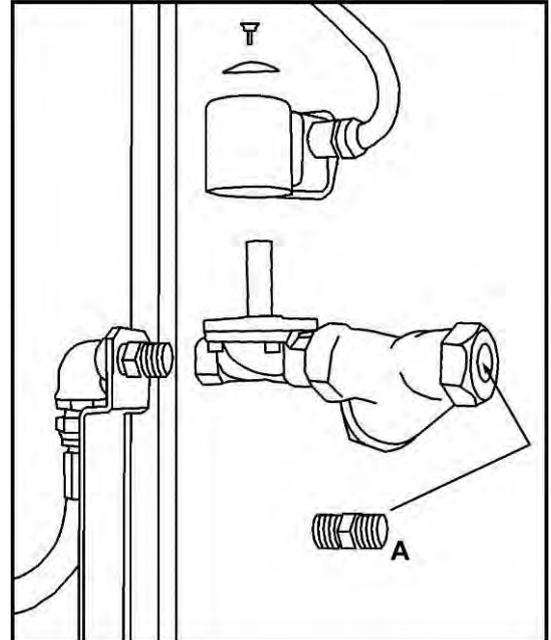

Fig. 3.8
Machines USA/Canada: place the small steam inlet hose (**A**, Fig. 3.8) to the filter inlet, (The end with **NPT** thread must be assembled to the steam conduits; the end with **GAS** thread must be connected to the filter).
- Adjust the compressed air injection regulator (Fig. 3.8), during the steam intake, until noise and vibration are reduced to a minimum.